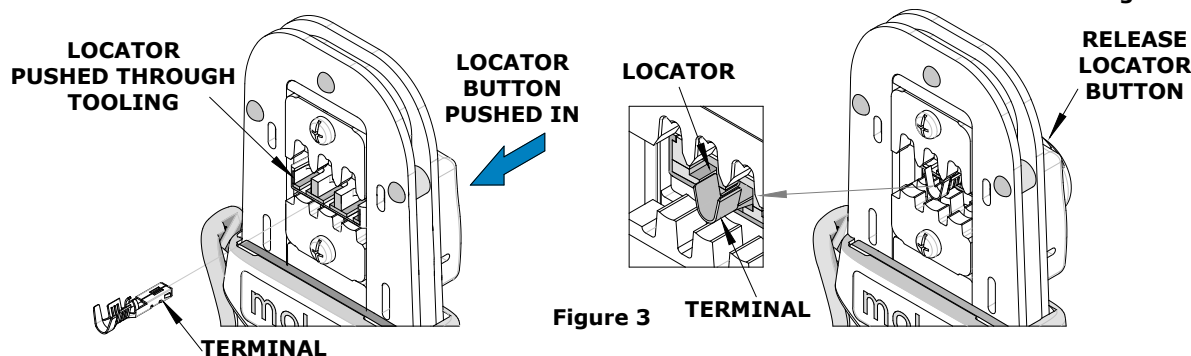

Figure 3
3. While holding the locator button in, load the terminal into the proper nest opening in the locator based on the wire insulation diameter markings on the crimp jaws. See Figure 3.